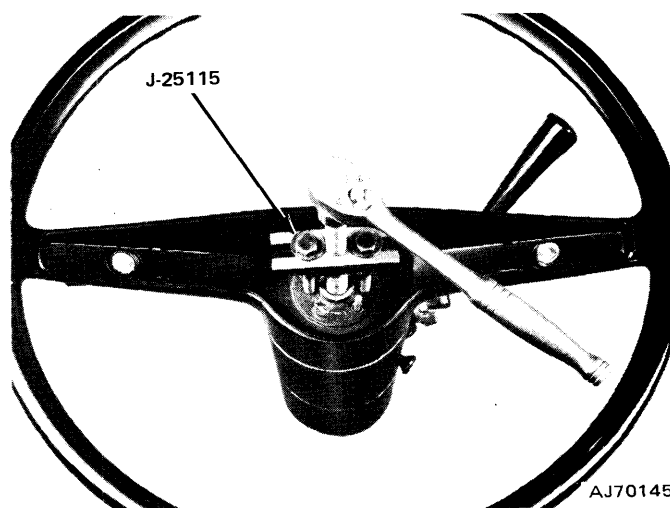

Fig. 11-1 Steering Wheel Removal
- (1) Disconnect battery negative cable.
- (2) Place front wheels in straight-ahead position.
- (3) Remove rubber boot and horn button from steering wheel. Rotate button until lock tabs on button align with notches in contact cup and pull upward to remove.
- (4) Remove steering wheel nut and washer.
- (5) Remove plastic horn contact cup retainer and remove horn contact cup and contact plate from steering wheel.
- (6) Remove horn contact pin and bushing from steering wheel.
- (7) Paint or scribe alignment marks on steering wheel and steering shaft for assembly reference.
- (8) Remove steering wheel using Puller J-25115 (fig. 11-1).
(3) Remove horn cover attaching screws from underside of steering wheel and remove horn cover.
(4) Disconnect horn wire from switch in steering wheel cavity. Gently pull and wiggle connector to remove.
(5) Remove steering wheel nut and connector.
(6) Paint or scribe alignment marks on steering wheel and steering shaft for assembly reference.
(7) Remove steering wheel using Puller J-25115 (fig. 11-1).